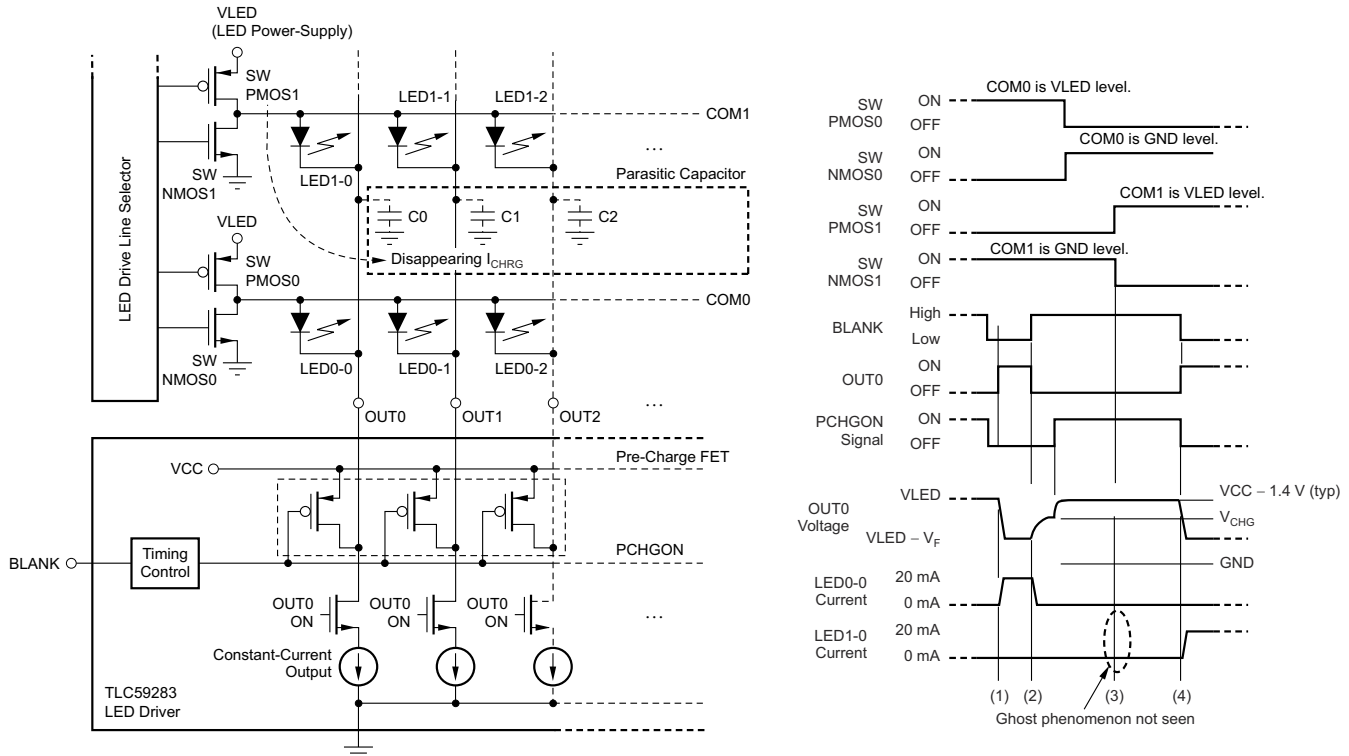

Figure 7-2. LED Ghost-lighting Mechanism by Pre-charge FET
The TLC59283 has an internal pre-charge FET to prevent ghosting, as shown in Figure 7-2. When a small delay after PWM control for a single common line completes, the FET pulls OUT_n up to V_{CC} . The charge current does not flow to C0 through LED1-0 when SWMOS1 is turned on and the ghosting is eliminated at (3). However, depending on the LED anode voltage, the number of LEDs in series, the LED forward voltage, and the TLC59283 V_{CC} supply voltage, there may not be a great enough ghost-canceling effect.